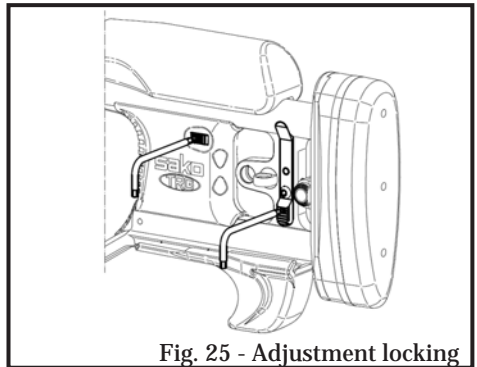

Fig. 25 - Adjustment locking
4. The length of pull position can be locked down with a Torx T10 set screw either on the left or right side of the catch B (Fig. 25).